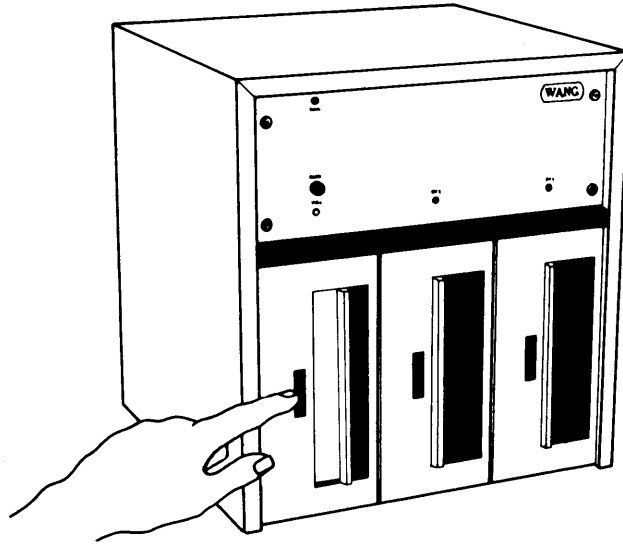

Figure 2-3. Opening the Door of Drive #1
2. Open the door of Drive #1 (left most drive) by pressing against the door latch, located immediately to the left of the door (Figure 2-3). The door should slide open.